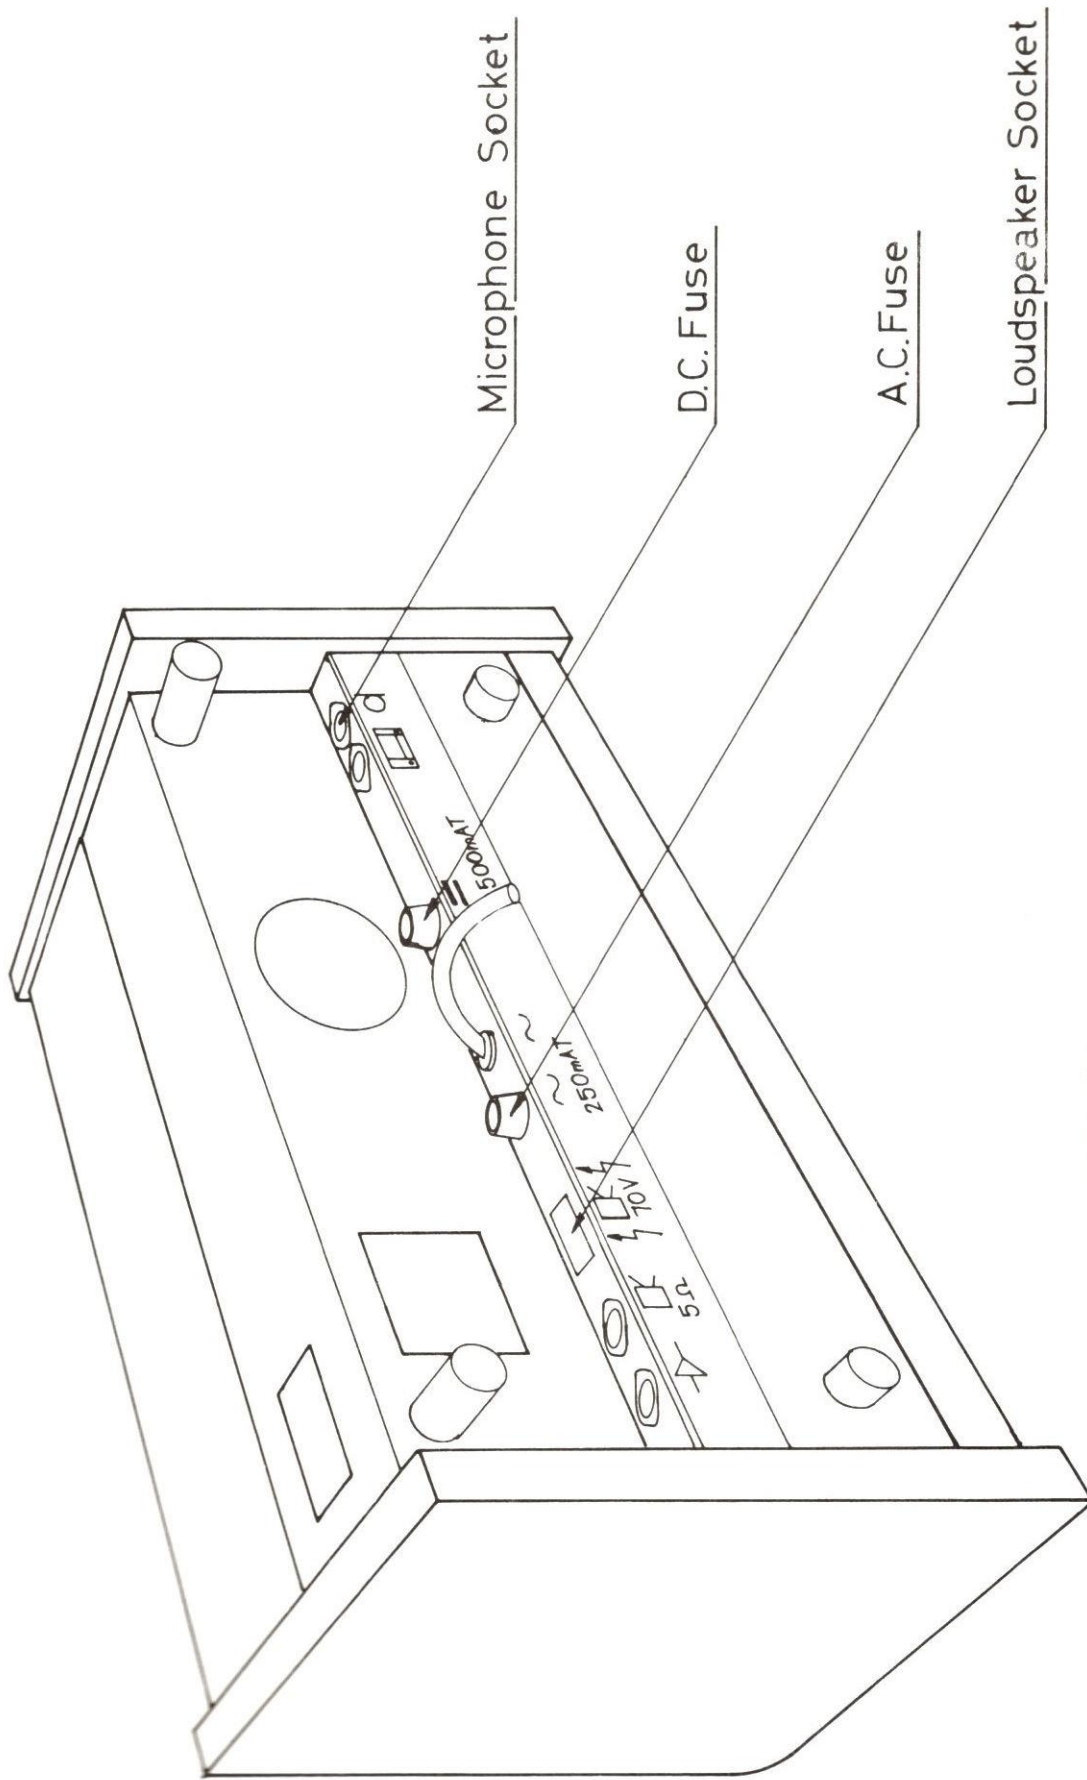

FIGURE 1
Underside view	Figure 1
Cause: Machine not switched on. Mains plug not in socket. Supply to socket defective - check by plugging in another appliance. Fuse in plug top blown (if fitted). A.C. fuse on underside of machine (See Fig.1) blown. IMPORTANT - if the A.C. fuse on the machine has blown it must be replaced by one of the correct type and rating, i.e. 250 mA, time delay, 20mm x 5 mm. If the replacement also blows, seek the help of our Service Engineer. NEVER fit a fuse of higher rating, and NEVER try to repair the defective fuse.
- Cause: Track switch incorrectly set. Volume turned down (check 'music volume' and 'monitor' controls). D.C. fuse on machine (see Fig. 1) blown. **IMPORTANT** - if the D.C. fuse on the machine has blown it must be replaced by one of the correct type and rating, i.e. 500 mA, time delay, 20mm x 5mm. If the replacement also blows, seek the help of our Service Engineer. **NEVER** fit a fuse of higher rating, and **NEVER** try to repair the defective fuse.
- Cause: Loudspeaker plug pulled out (see Fig.1) Extension speaker volume controls or individual loudspeaker switches, if installed, incorrectly set. Loudspeaker wiring defective.